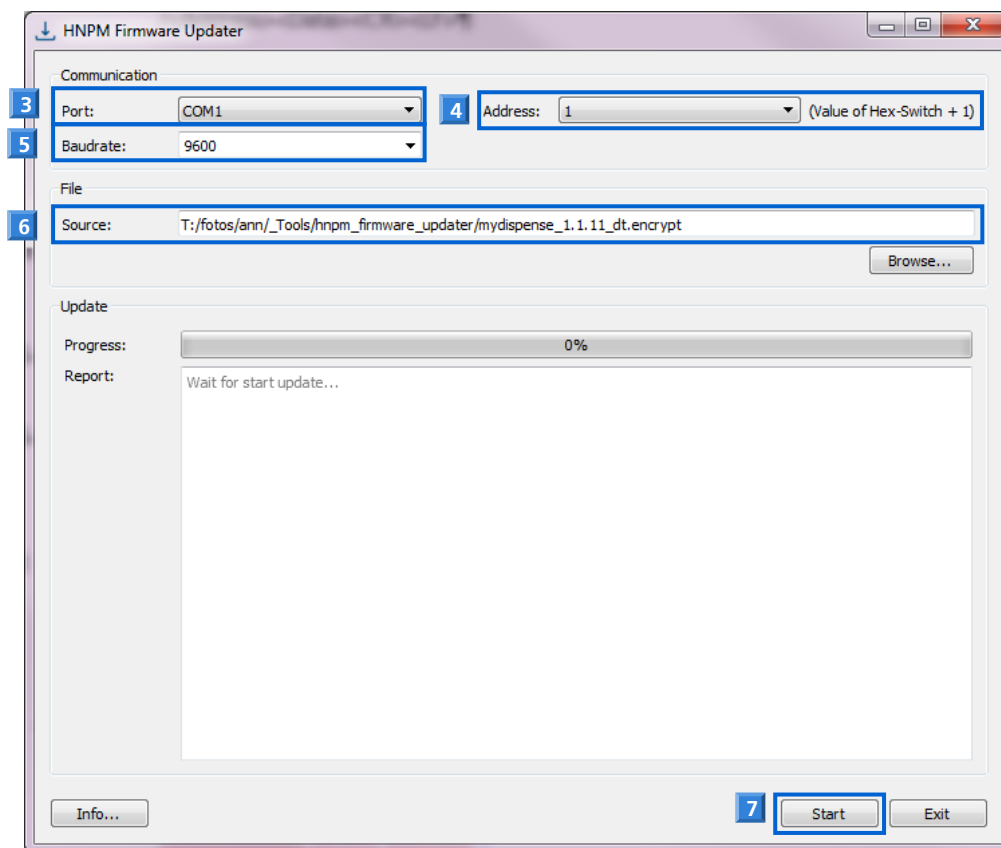

figure 15
2. Open the program (see figure 15)